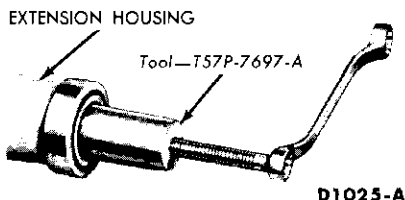

FIG. 3—Extension Housing Bushing and Rear Seal Removal
2. Remove the bushing and the rear seal together when the bushing requires replacement (Fig. 3). When